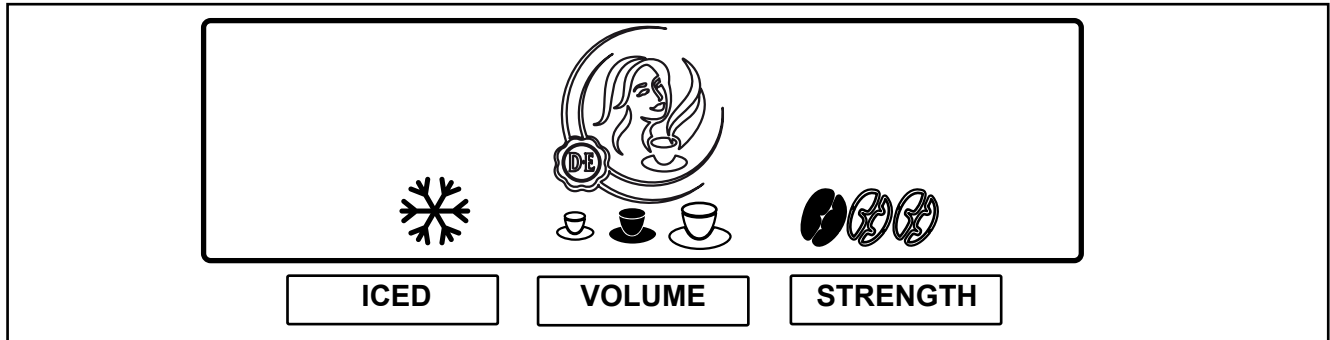

Fig. 15
Your dispenser supports preselection options. The service technician may have activated these preselection options during installation. When the preselection button is pressed, the following preselection options are shown on the display (fig. 15):
2. Press the preselection button «ICED» to activate this preselection. The icon for iced is displayed. (Fig. 15)
2. Press the preselection button «VOLUME» to activate this preselection. Three cup icons (small - medium - large) are displayed. (Fig. 15)